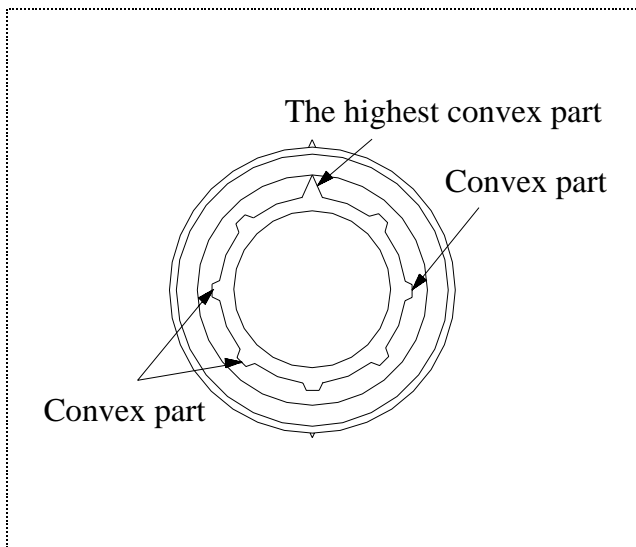

Fig.1 .Indicator (Under view)
(Refer to Fig.1.)
- 1) Remove the gearbox from the valve according to the (7) Disassembly and assembly procedure for parts replacement
- 5) Align the highest convex part of eight convex parts of the indicator with the deepest concave part of the gearbox as shown in Fig 1&2.(If not properly aligned the indicator cap can be damaged.)